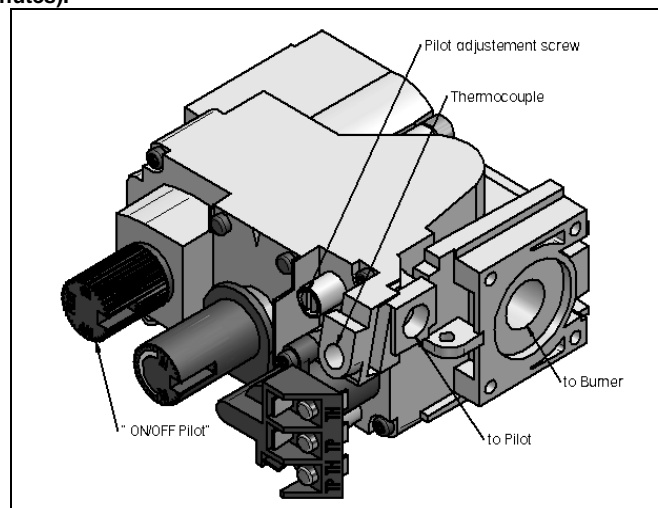

Figure 3
- Upon initial firing check manifold pressure at pressure tap located on the front of the control valve (Figure 3).